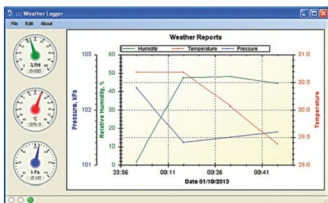

Fig. 1: Screenshot of weather logger graph
6. Displays a graph in the PC as shown in Fig. 1